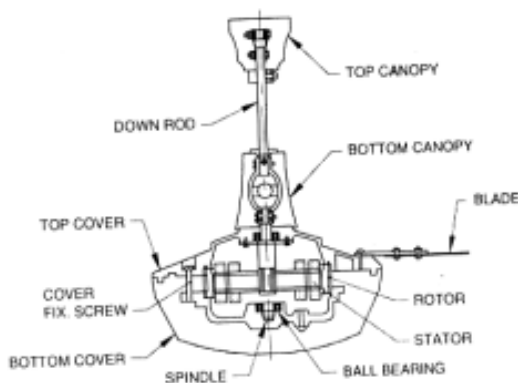

Fig.13.1 - Internal Parts of ceiling fan
13.3 Construction of Ceiling fan: The parts of the ceiling fan are shown in Fig.13.1 and 13.2. The key components are the following;